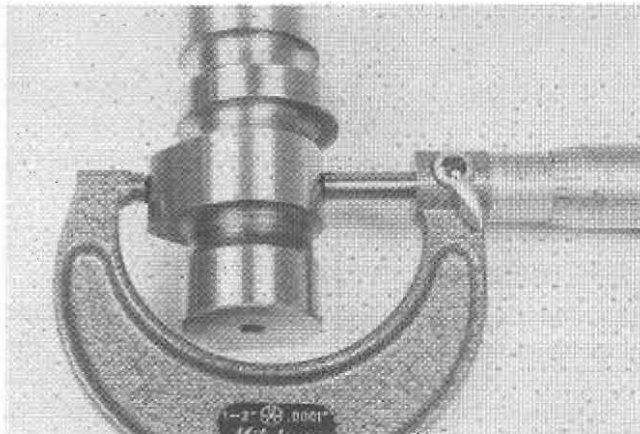

Fig. 3-21 Camshaft Lobe Measurement
2. Measure the cam lobe height (Fig. 3-21). The height of the intake or exhaust valve cams should be 1.3543 to 1.3780 in. (34.4 to 35.0 mm). The height of the injection pump cam should be 1.7520 to 1.7717 in. (44.5 to 45.0 mm).